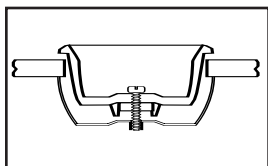
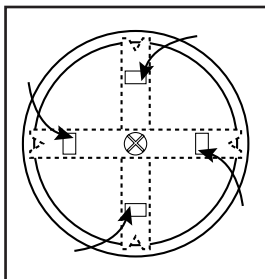

Figure 3
Figure 4
10. Press the assembly into the 2-3/16" hole until the clamp edge is below the mounting surface, then tighten the screw. The cup will clamp down to the surface as the screw is tightened (Figure 3). In the case of a thick mounting surface, the legs of the clamp can be bent outward by inserting a screwdriver through the four rectangular holes in the cup while still mounted (Figure 4).